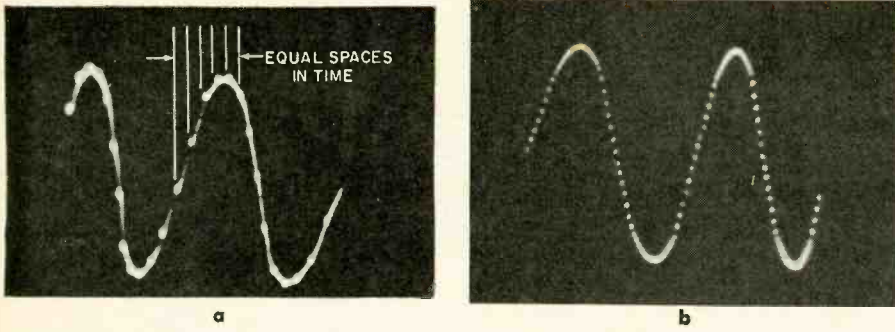

Fig. 3—Marking waveform with dots for frequency measurement, using: a—positive pulses; b—negative pulses; c—test setup.
3. Marking waveforms with dots or holes, as shown in Fig. 3, for frequency measurement or waveform analysis. The pips being exactly spaced in time will divide the wave picture for graphical analysis.